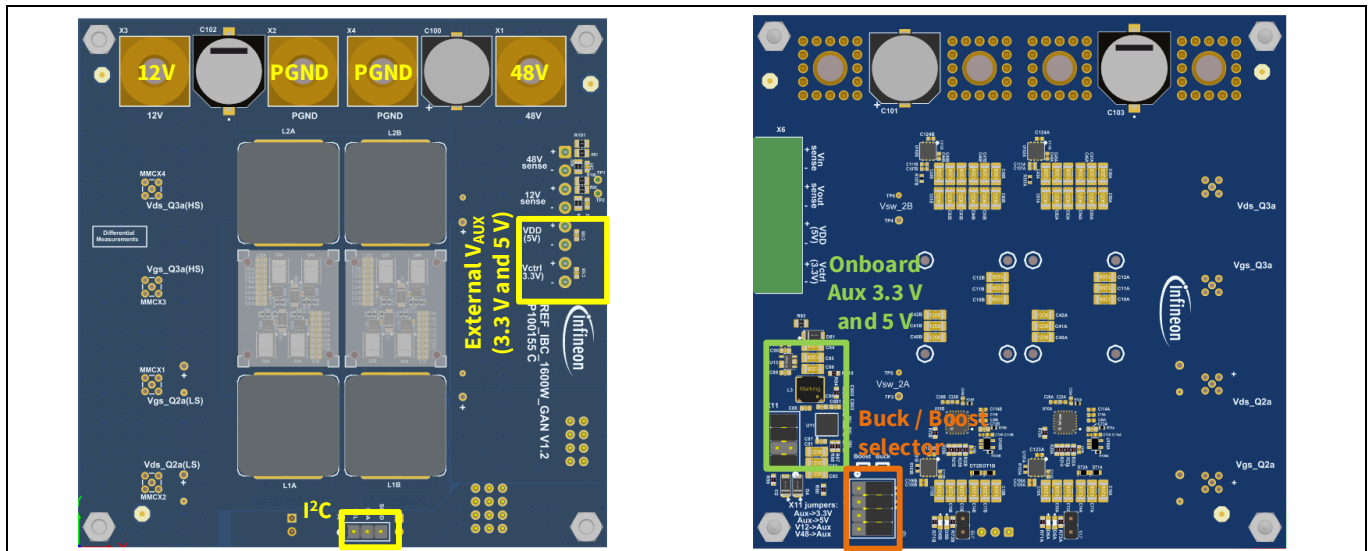

Figure 1 Images of the REF_IBC_1600W_GAN with major connections highlighted
Figure 1 shows a picture of the REF_IBC_1600W_GAN, as well as input and output power connections, I²C header, auxiliary 3.3 V and 5 V supply selection header and buck/boost selection header locations.
1. Connect power supply (PSU) and electronic load to 48 V, GND, 12 V, GND terminals according to Figure 1.